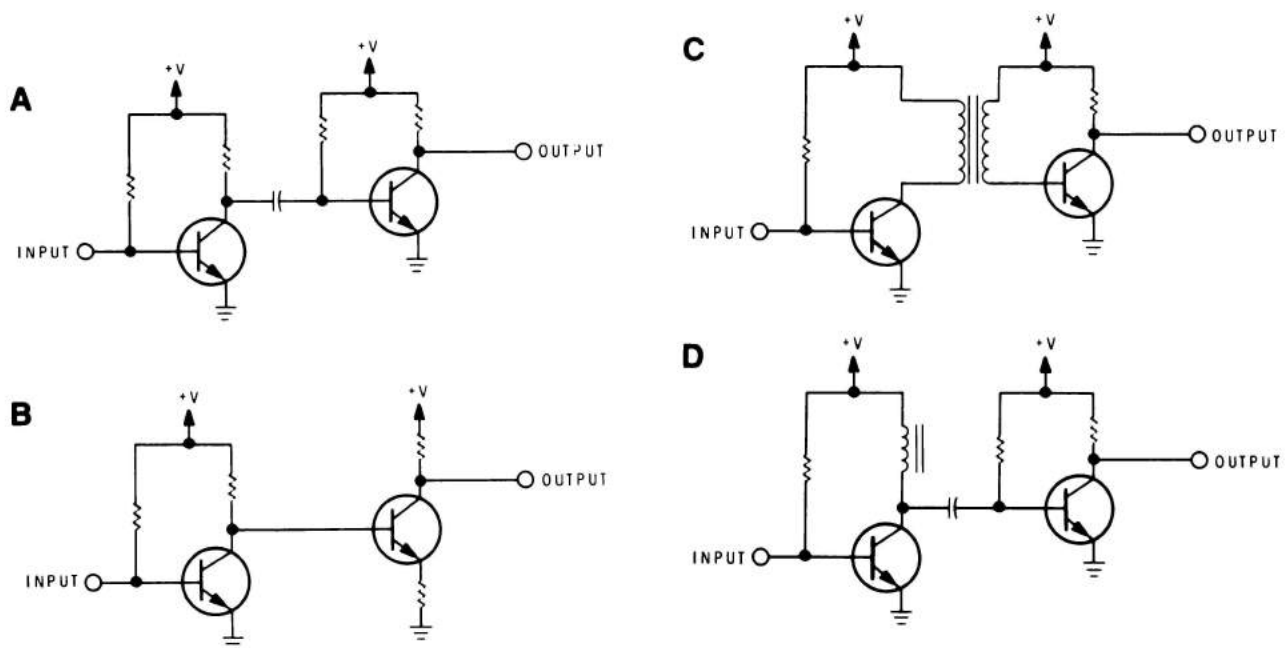

Figure 4-34
15. Identify the audio amplifier coupling circuits shown in Figure 4-34.
15. The audio amplifier coupling circuits shown in Figure 4-34 are: